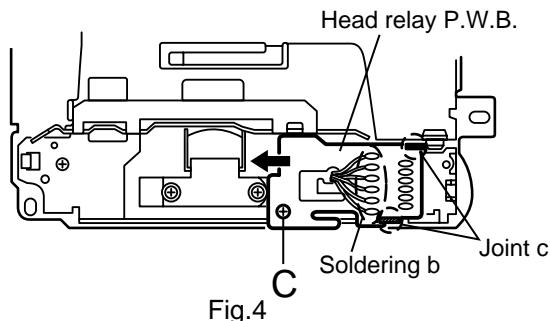

Fig.4
■ Removing the head relay P.W.B. (See Fig.4)